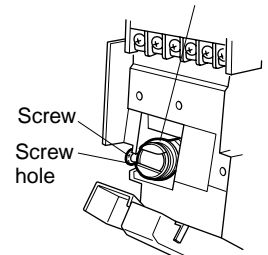
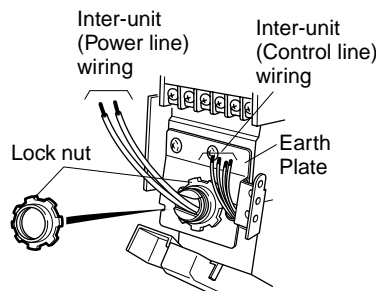

Fig. 26b
Fig. 26c
- g) Remove the lock nut from the conduit connector. Insert the conduit connector through the opening from the underside of the electrical component box. After insertion, Fit the screw at the top of the conduit connector into the cut-out. (Fig. 26b). Position the earth plate over the conduit connector, allowing the connector and wires to extend through the hole in the plate. Next, attach the conduit connector to the earth plate by replacing and tightening the lock nut (Figs. 26c and 26d). Then re-attach the earth plate to the electrical component box with the 2 screws.